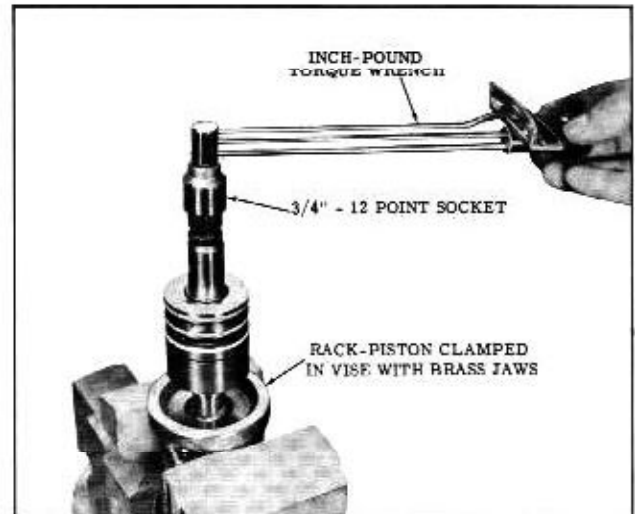

Fig. 4-20 Checking Preload
- d. Using a torque wrench and a 3/4" 12 point socket, check the preload while rotating the torque wrench in a 120° arc. The reading should be 1/16 to 5 in. lbs. (Fig. 4-20)